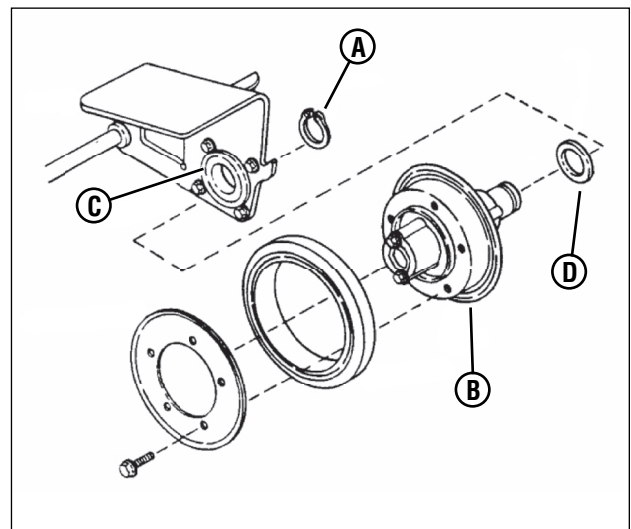

Figure 33: Replacing the driven disc bearing
- Remove the snap ring (A, Figure 33) that secures the driven disc hub (B) to the thrust plate.
- Slide the driven disc hub out of the bearing (C).
**NOTE:** Be sure to replace the shim washer (D) when reassembling the driven disc assembly.